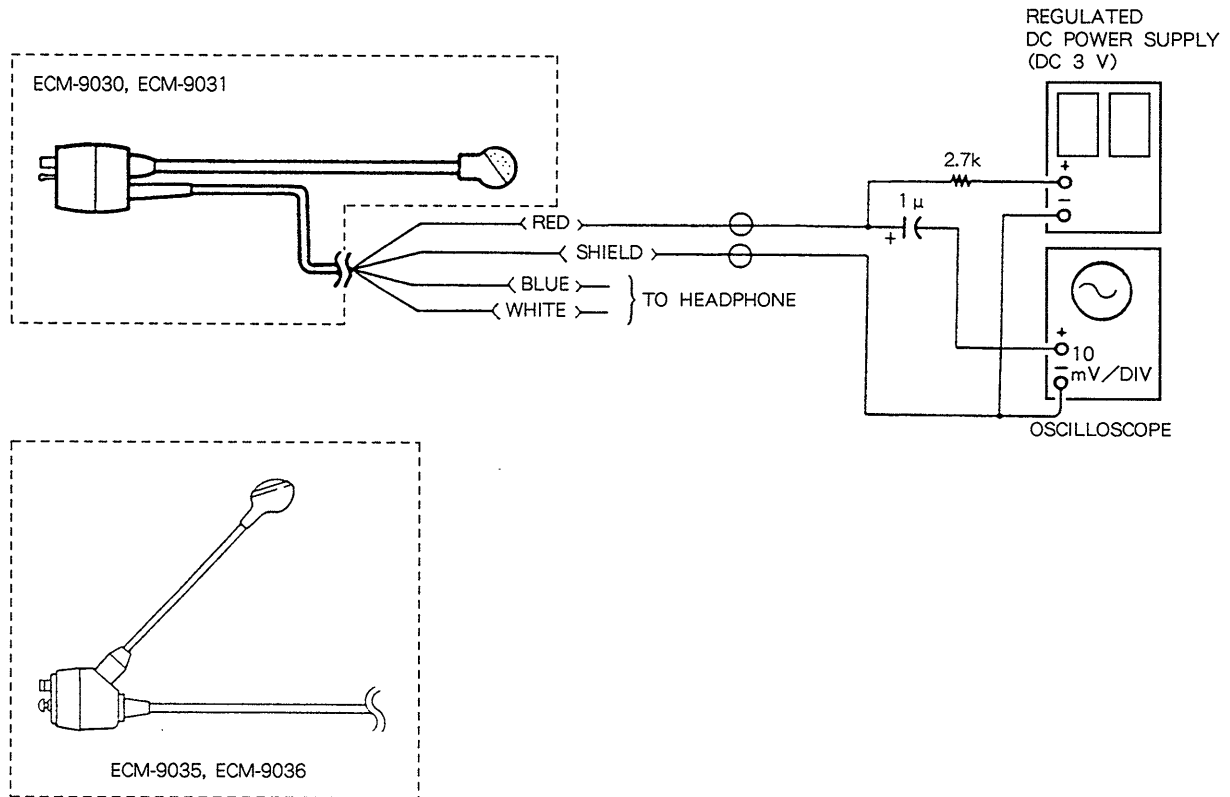

Figure 14. Wiring for Microphone Main-Frame Ass'y
A. Microphone Main-Frame Ass'y Checkout (See Figure 14.)
- (1) Connect a regulated DC power supply, oscilloscope, and headphone to the microphone main-frame ass'y as shown in Figure 14.
- (2) Confirm that the waveforms are appeared in the oscilloscope when inputting audio signal toward the microphone.